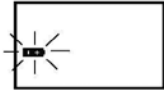

Figure 50
2. If operation continues without changing the batteries, the second battery alarm level will be reached which will prevent operation. In this condition the battery icon starts to flash and is the only one to remain visible on the LCD (Figure 50).